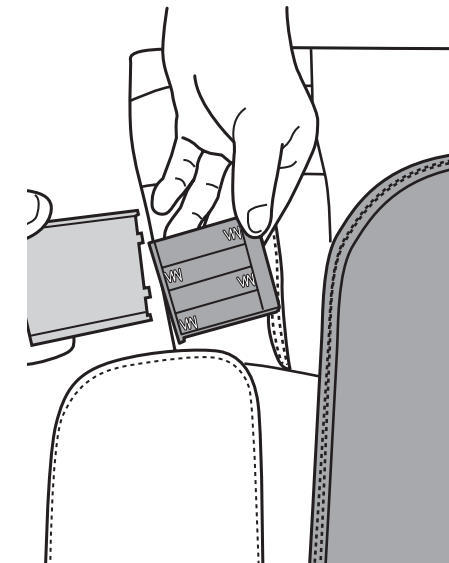

Fig.23
4. Use your fingers to remove the battery compartment cover, then install four AA alkaline batteries (Fig.23).